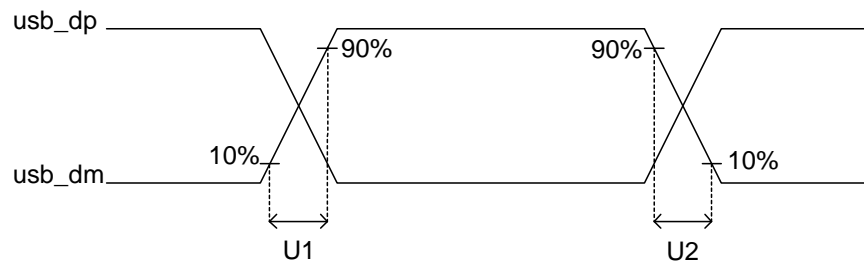
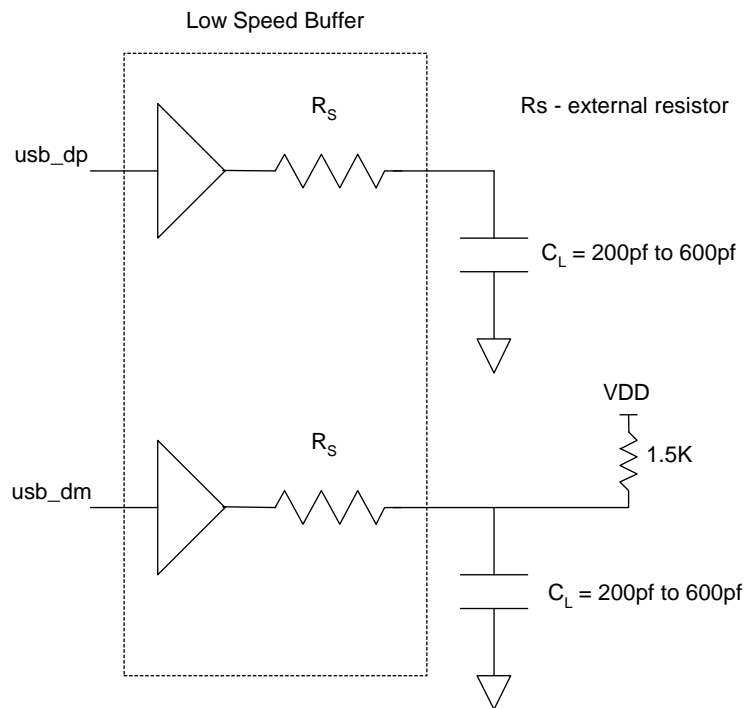

Figure 141: USB differential data
Figure 143: USB low speed load
Table 477 and Table 478 describe the values shown in the USB timing diagrams (Figure 141 through Figure 143).
- 4 Load shown in Figure 143, "USB low speed load," on page 834.